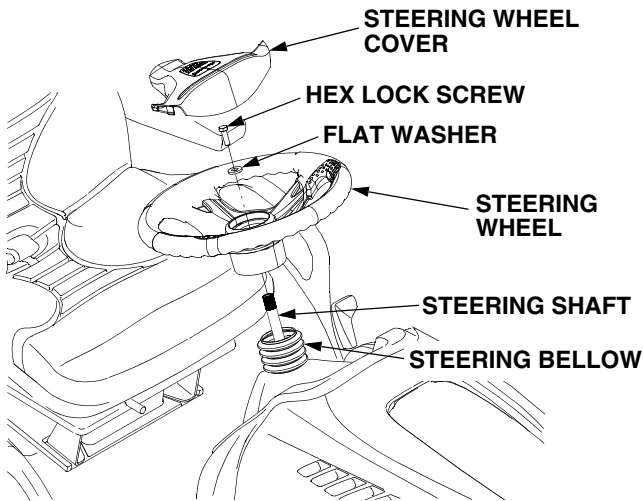

Figure 1
1. Locate the steering bellow and note the riser at one end of the bellow. With the riser facing upward, slide the bellow onto the steering shaft. See Figure 1.